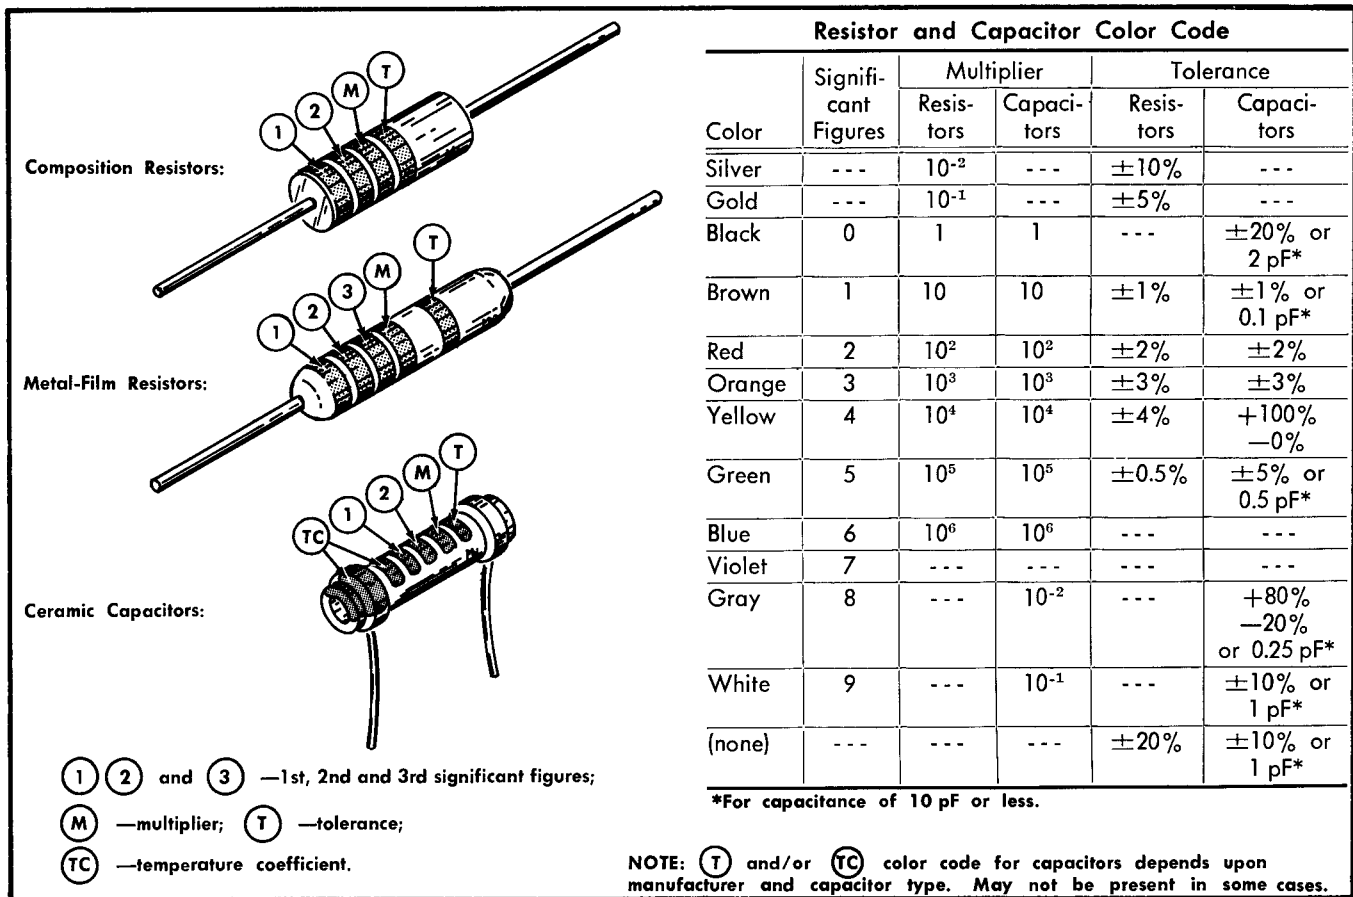

Fig. 5-1. Resistor and ceramic capacitor color code.
The color-coding sequence is shown in Fig. 5-1.
**Capacitor Marking.** The capacitance values of common disc capacitors and small electrolytics are marked in microfarads on the side of the component body. The white ceramic capacitors used in the Type 3T2 are color coded in picofarads using a modified EIA code (see Fig. 5-1).